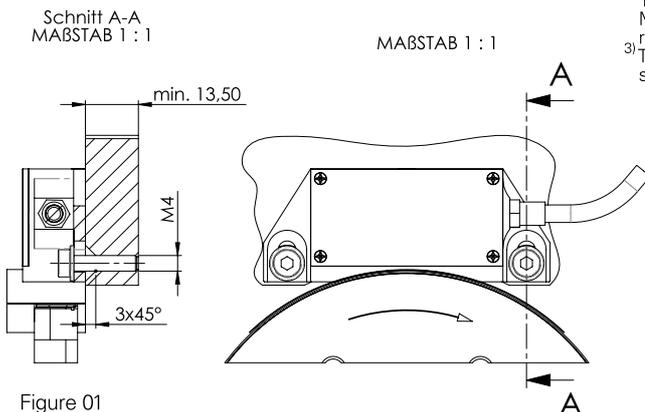

Figure 01
3) There must be anticipate a blind hole ø 4,3 x 3mm on the stator side at the mounting holes. See Figure.01